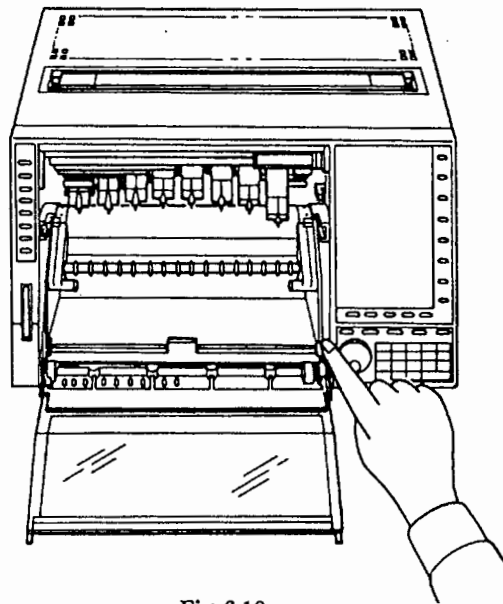

Fig 6.10
- (9) Set the projecting sections of the housing unit to the recorder support notch and push the unit to the recorder until a locking sound is heard. (See Fig. 6.10.)
- (10) Turn ON the power and press the FEED pushbutton on the left front panel of the recorder to feed more than three folded portions of the chart to the chart receiving section. In this case, make sure that the chart is feeding normally. Even when the chart is fed manually, press the FEED button to make sure that the feeding operation is normal. If the chart does not feed correctly, repeat the procedure from step (2) above.
- (11) When the chart is nearly finished, a vermilion band indicating "RENEW CHART" appears on the chart. When this appears, install a new chart.
- (12) When the chart is finished, the CHART END indicator lights up at the top of the front panel. When this happens, replace the chart with a new one by following the procedure described in steps (1) to (10) above.